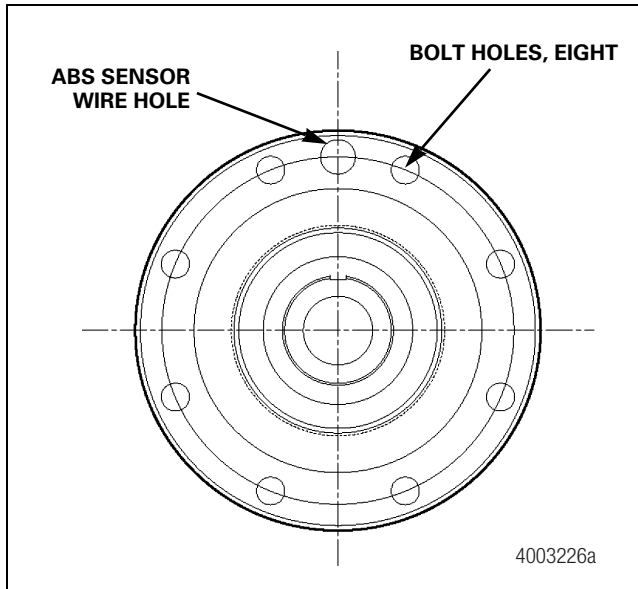

Figure 6.24
- **For a nine-hole flange:** Fasten the brake by installing the correct 5/8-inch (15.875 mm) diameter fasteners through the eight 0.656-inch (17 mm) holes. Tighten the fasteners to 180-230 lb-ft (244-312 N•m). Figure 6.24.